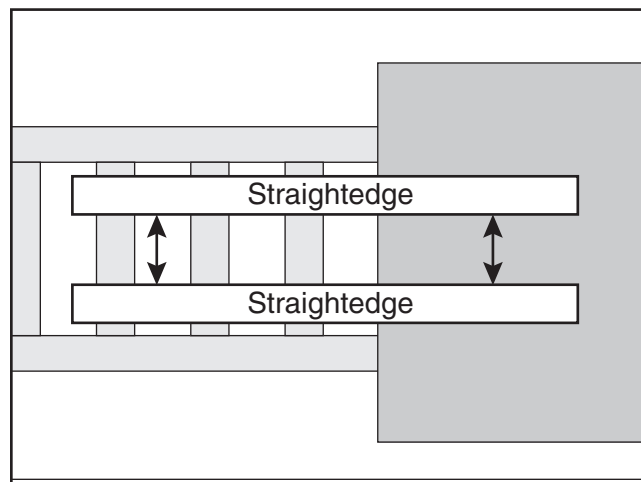

Figure 19. Straightedge positions for checking and adjusting front and back of roller table.
5. Fine-tune the stand height by checking and adjusting the sides of the roller tables (see **Figure 19**) until the both sides of the rollers are even with the table.